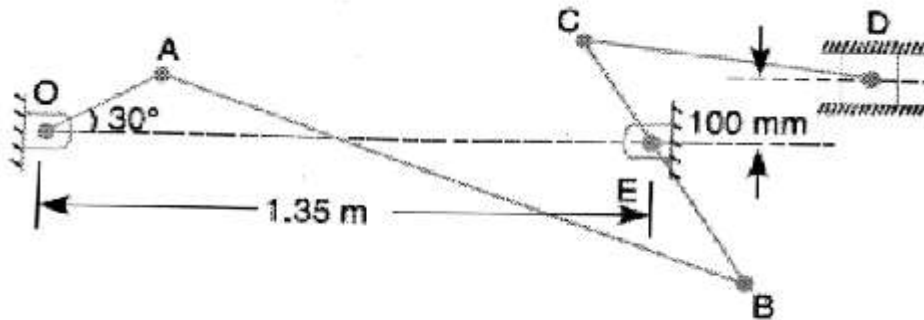

Fig.2
Q.3 A mechanism, as shown in fig.2 has the following dimensions: $OA = 200 \text{ mm}$; $AB = 1.5 \text{ m}$; $BC = 1500 \text{ mm}$; $CD = 500 \text{ mm}$ and $BE = 400 \text{ mm}$. Locate all the instantaneous centers. If crank OA rotates uniformly at 120 rpm . Clockwise, Find